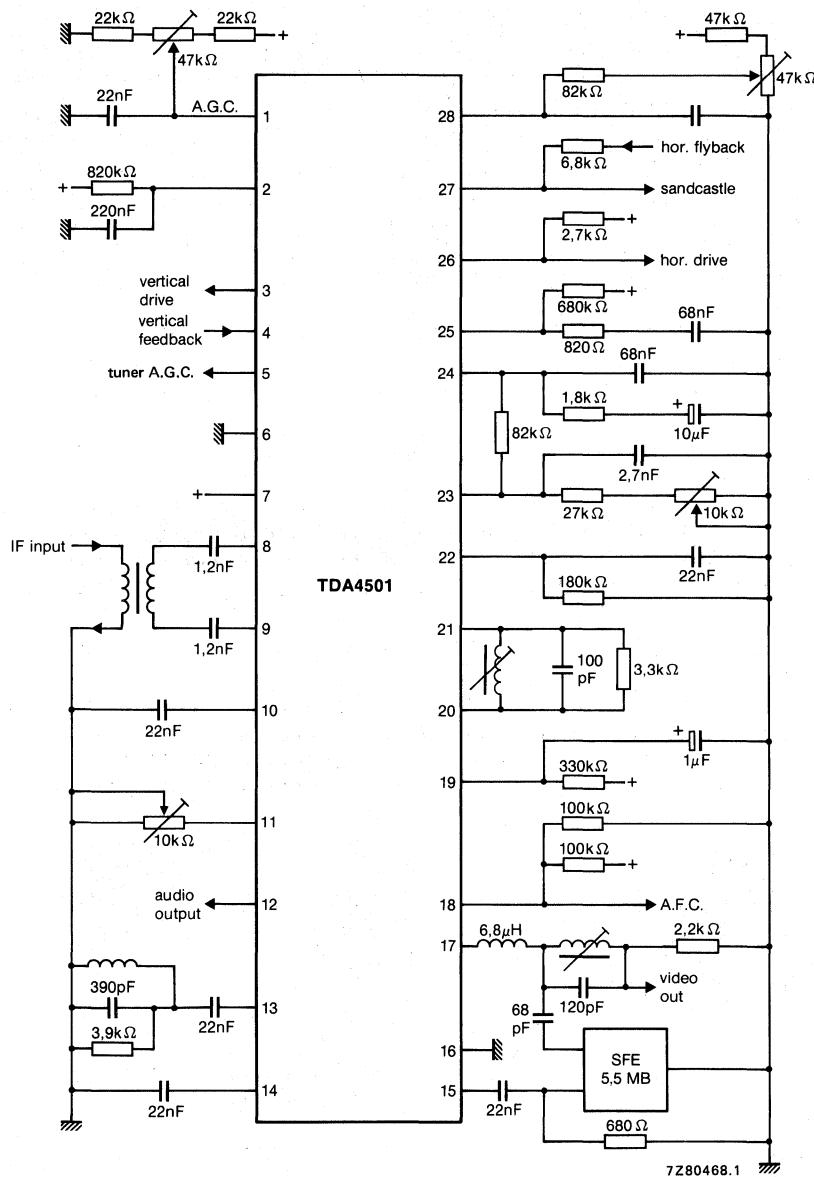

Fig. 2 Application diagram.
4. Vi(rms) = 10 mV; see Fig. 2; Q-factor = 36.